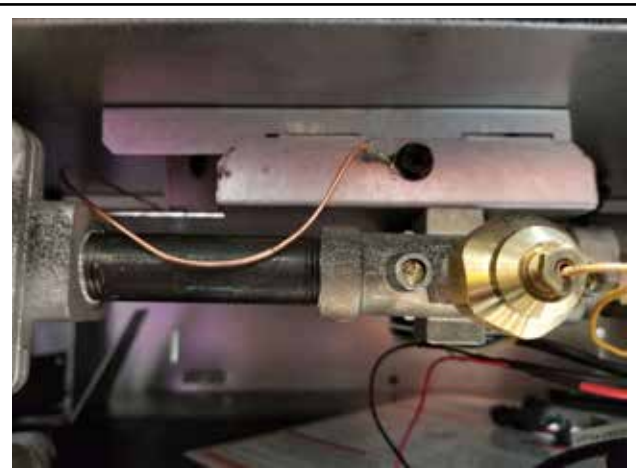

Figure 3
4. Reach in under the firebox bottom and locate the gas valve. Use Phillips screwdriver and remove the screw and ground wire that is in the middle of the valve bracket (see *Figure 3*). Once the screw is out swing the valve bracket/regulator assembly to the right.